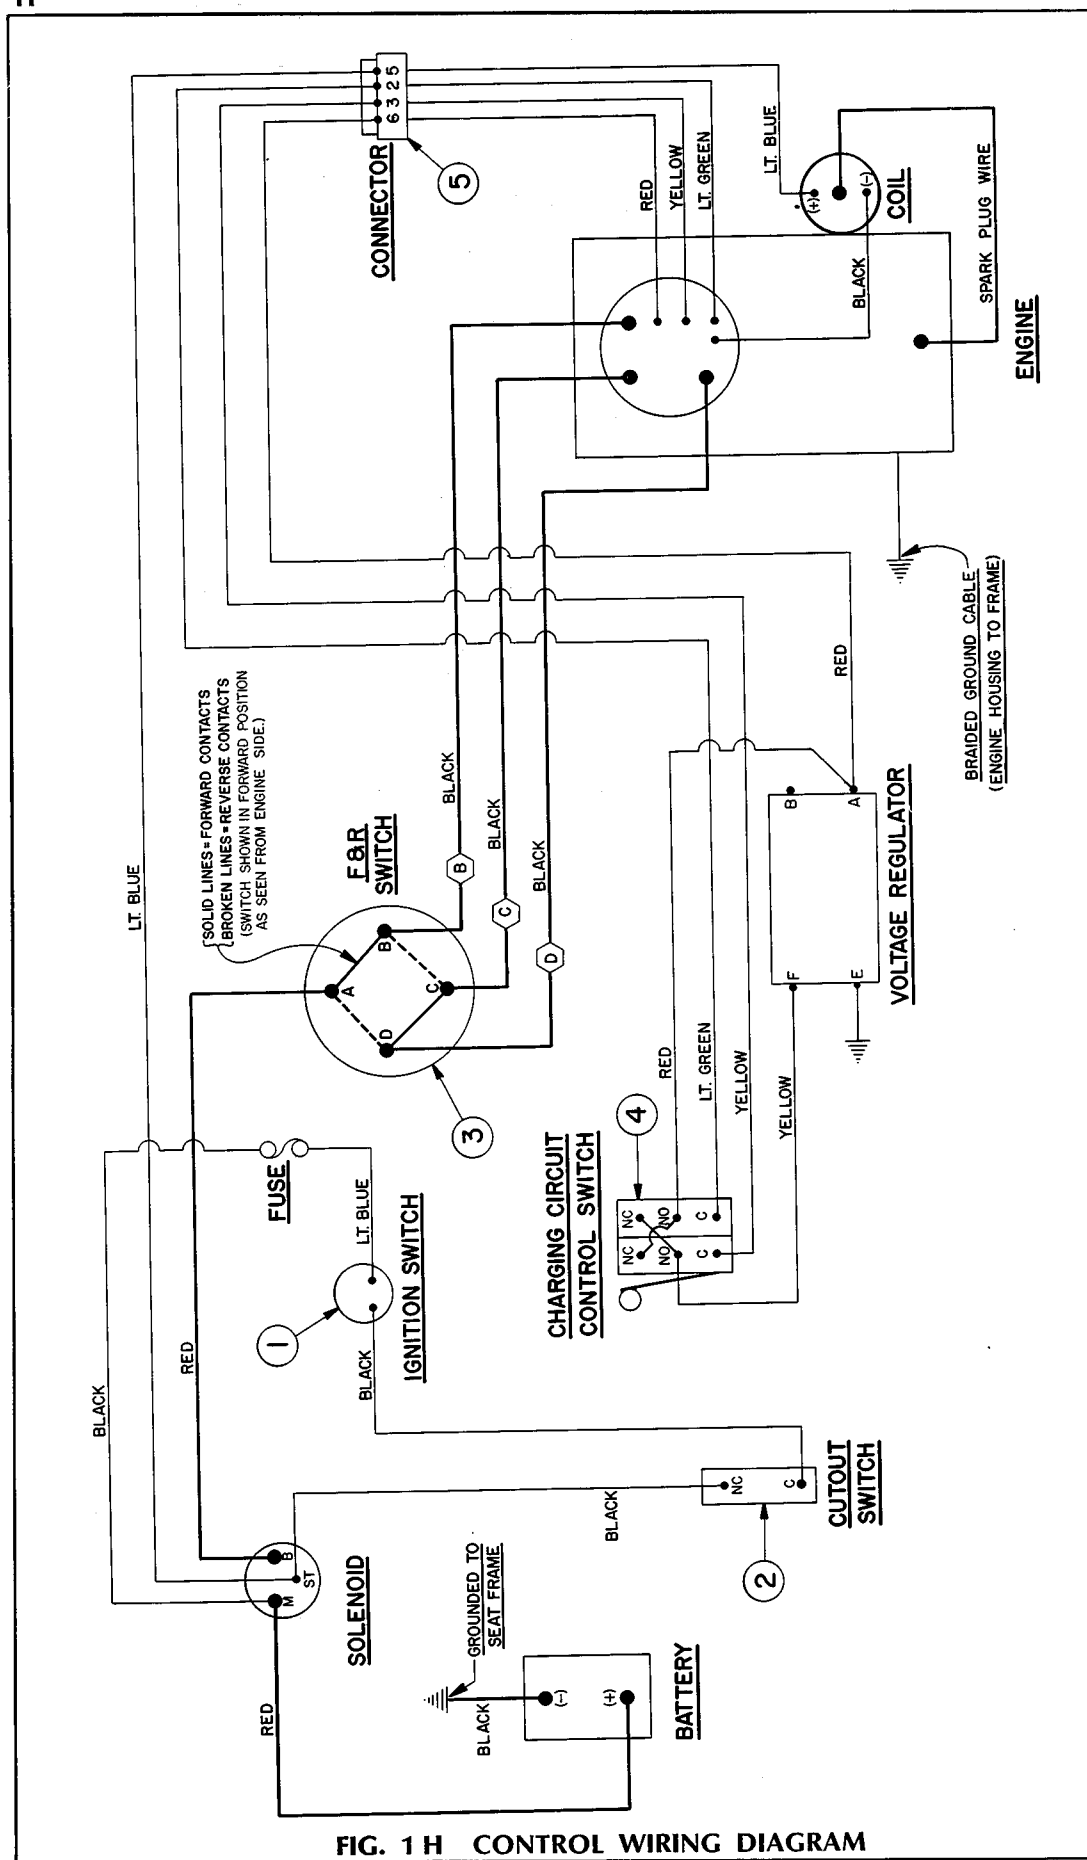

FIG. 1 H CONTROL WIRING DIAGRAM
4. Check complete electrical system for correct circuitry. See (Fig 1 H or 2 H) Wiring Diagram.
7. Check for continuity through the accelerator controlled cutout switch. Place probe on black wire terminal on key switch and the other probe on the (ST) terminal of solenoid and depress the accelerator pedal. If the ohm meter shows "O" ohms, the switch is good. If the meter does not register check the black wire from key switch to cutout switch and from cutout switch to solenoid. If wires and connections are good replace cutout switch.
- A. Place volt meter positive (+) probe on terminal "M" on solenoid (refer to Fig. 1 H). Place negative (—) probe on terminal "B". The volt meter should indicate approximately 12 V.
### TESTING CHARGING CIRCUIT (Refer to Fig. 1 - H)